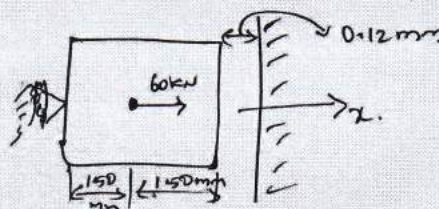

Fig.Q5
- 5 Consider the bar shown in Fig.Q5. An axial load  $P = 60 \times 10^3 N$  is applied at its mid point. Using elimination method and penalty method determine nodal displacement.